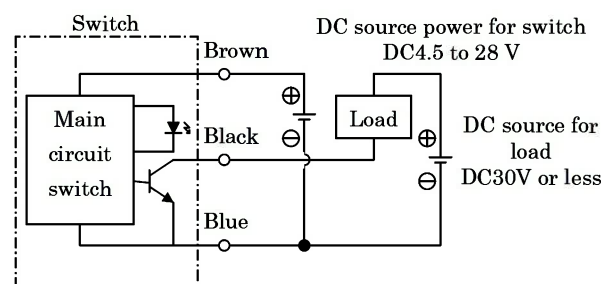

Fig.2 Fundamental circuit Example (2)
- (1) For R2 switch, connect the brown and blue lines to the positive and negative sides, respectively. If these lines are connected reversely, the switch and load are always kept activated. In this case, the indicator light is not lit. For R3 switch, pay special attention to Fig. 2 below.
- (2) Always connect the lead wires while referring to the colors shown on the lead wires. At this time, turn OFF the power to the unit in the electrical circuit on the connection side before starting the wire connection work. For R3 switch, if the wiring is performed incorrectly or the load is short-circuited, this may cause the switch, as well as the electrical circuit on the load side to break. Carefully connect the lead wires so that they are not connected incorrectly or short-circuited.